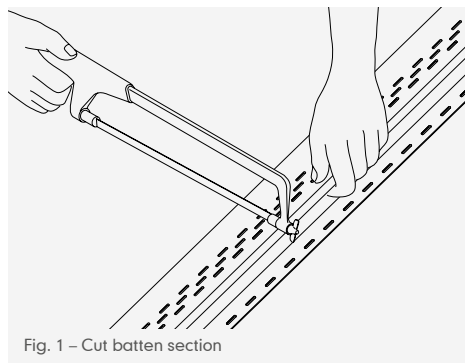

Fig. 1 – Cut batten section
- 1 Cut batten section with a fine-toothed saw with ends of sections at joints meeting halfway over a rafter, so each end can be nailed (Fig. 1).